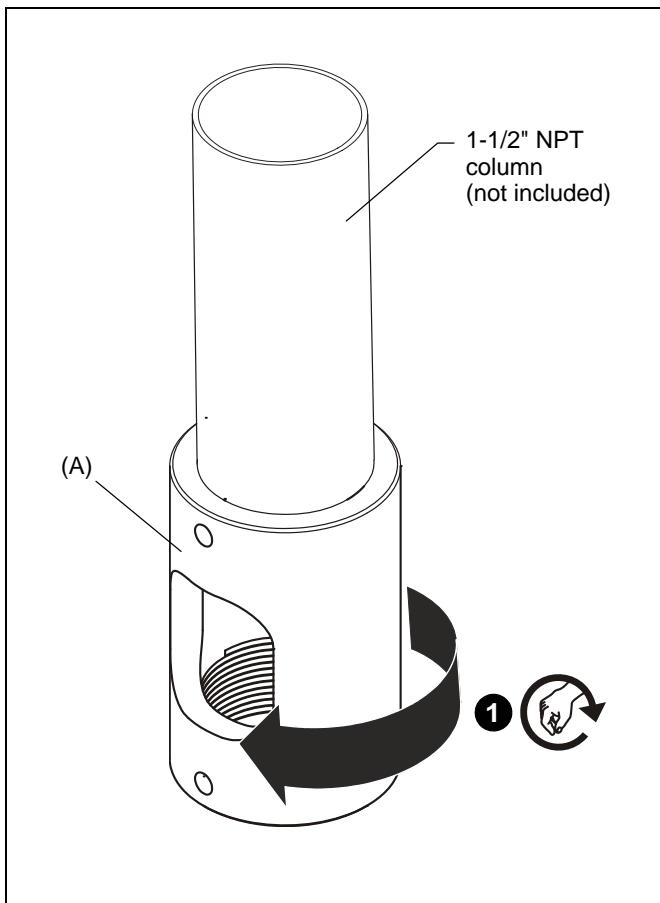

Figure 1
1. Thread CMA152 adapter (A) onto upper 1-1/2" NPT threaded column (not included) by hand, with a minimum of four threads engaged. (See Figure 1)